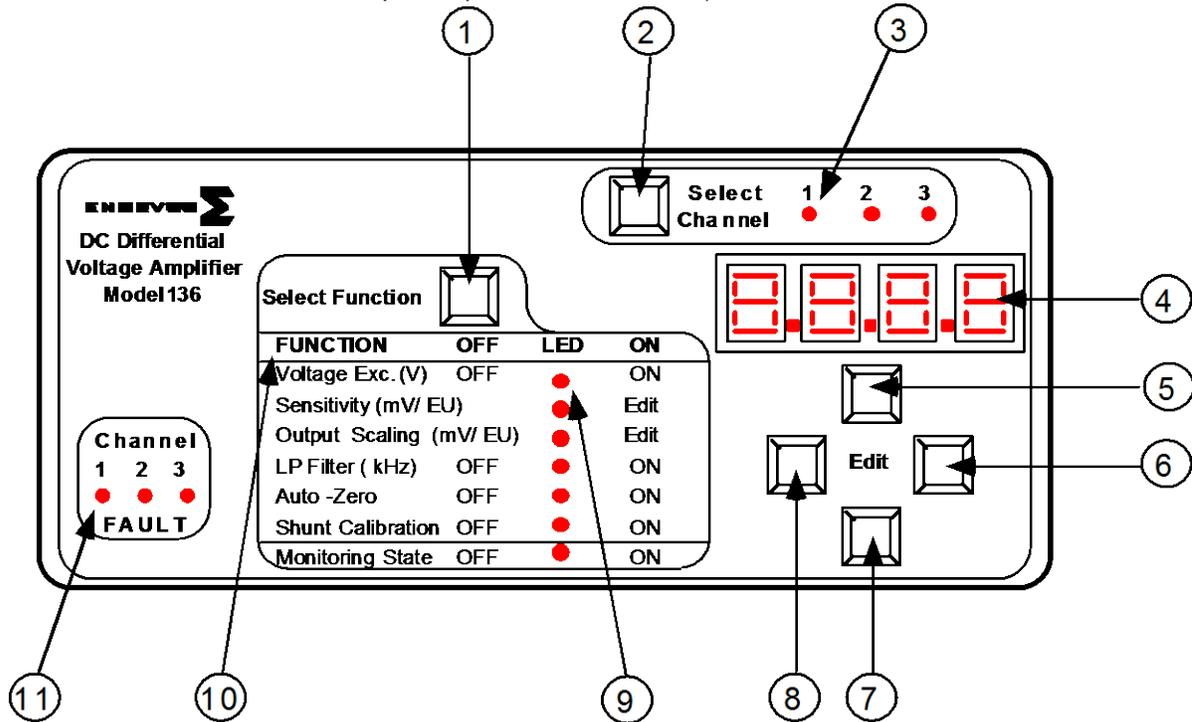

Figure 1
The Endevco Model 136 can be manually programmed from the front panel (Figure 1) by means of a "Select Channel" push-button, three (3) "Channel LEDs", a "Select Function" push-button, seven (7) "Function LEDs" indicating which function has been selected by the "Select Function" push-button (referred to in this document as the "function LEDs"), a four (4) character LED display to show the state of each function, four (4) "EDIT" push-buttons to change the entries in the LED display, and three (3) LEDs indicating if there are any faults in any of the channels (referred to in this document as the "Fault LEDs").
Shown in Figure 1 is the Model 136 front panel. The front panel is a Mylar overlay, adhesively attached to the front panel aluminum plate. The Mylar overlay has cutouts for the six push buttons, and clear windows for 13 LED's and the 4-digit panel meter. Each push button and LED are described as follows:
Figure 1 Item 1, is the "Select Function" push button that controls the functions listed below it. Pressing the Select Function push button scrolls through the LED's. The function selected can be modified while the LED is flashing, located to the right of the associated function.
Figure 1 Item 2, is the "Select Channel" push button. Pressing this push button sequentially selects channels one to three, which is used for set up and display of data on the digital panel meter. The appropriate channel's LED remains illuminated until a different channel is selected.
Figure 1 Item 3, is the LED for channel one of the three channel unit. The LED illuminated corresponds to the channel that is actively being set up or data displayed on the DPM.
Figure 1 Item 4, is the digital panel meter (DPM). The DPM displays alpha-numerics for the appropriate "Select Channel" selected and is used to display the channel set up and for actual data display. The DPM has an accuracy of $\pm 10\%$. (See Section 2.4, Operation and sub-sections contained, for specific push button abilities.)
Figure 1 Items 5, 6, 7, and 8 correspond, respectively to the "Up", "Right", "Down" and "Left" Edit push buttons. These push buttons are used to change the entries on the digital panel meter and are used in conjunction with the appropriate "Select Function" parameter to be programmed. (See Section 2.4, Operation and sub-sections contained, for specific push button abilities.)
Figure 1 Item 9, is one of seven Function parameters LED's that is selectable/programmable. The flashing LED identifies the function that is actively capable of being set up or modified at that time.
Figure 1 Item 10, is a list of "Functions" that are programmable for each channel, which are selected by the "Select Function" push button and are set up or modified with the four "Edit" push buttons.
Figure 1 Item 11, are the "Fault" LED's. The illuminated LED indicates that particular channel is in the ISOTRON mode, the current excitation is on and there exists a short or open circuit for the input.
The Endeveco Model 136 can be manually programmed from the front panel (See Figure 1) by means of a "Select Channel" push-button, three (3) "Channel LEDs", a "Select Function" push-button, seven (7) "Function LEDs" indicating which function has been selected by the "Select Function" push-button (referred in this document as the "function LED's"), a four (4) character LED display to show the state of each function, four (4) "EDIT" push-buttons to change the entries in the LED display, and three (3) LEDs indicating if there are any faults in any of the channels (referred in this document as the "Fault LED's").